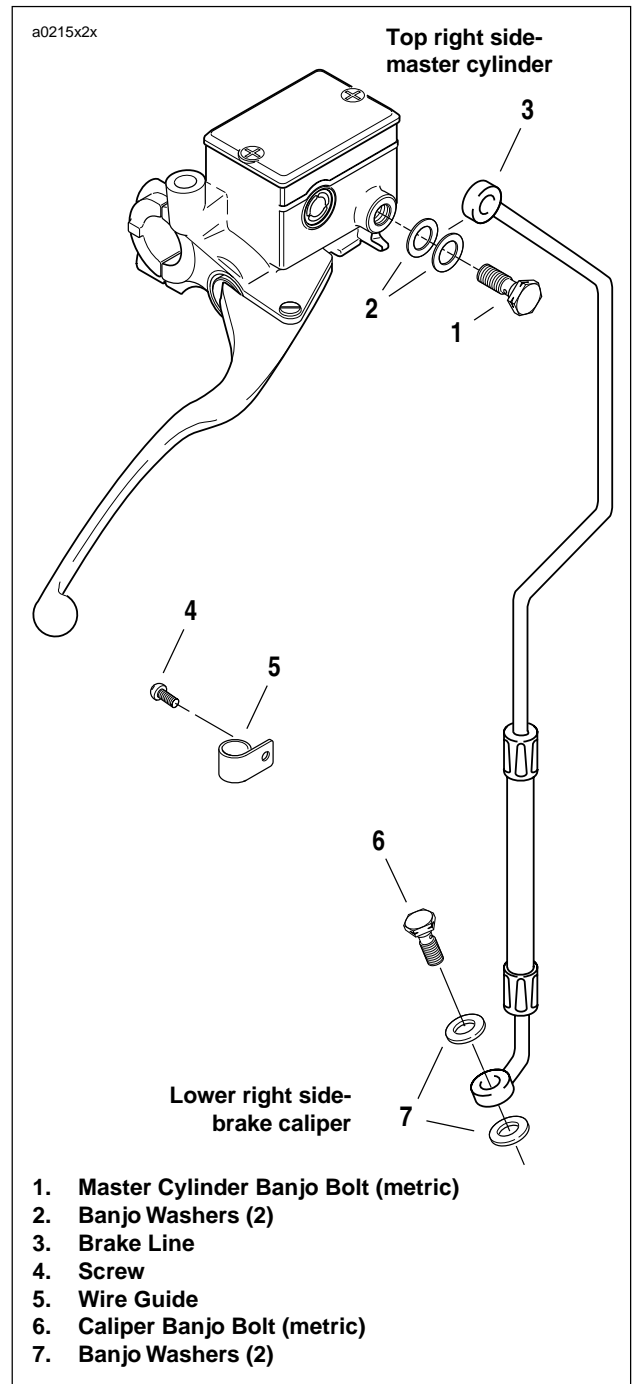

Figure 2-41. Front Brake Line
2. See Figure 2-41. Remove screw (4) to detach brake line clamp (5) from right side of lower triple clamp. Remove brake line from wireform.
1. See Figure 2-41. Connect brake line to master cylinder using two **new** banjo washers (2) and banjo bolt (1) (metric). Loosely install bolt into master cylinder.
2. From the master cylinder, the brake line runs downward in front of the right handlebar, where it turns inboard at the upper triple clamp. Loosely install clamp (5) with screw (4) to attach front brake line to right side of lower triple clamp. Position brake line in wireform.
3. Connect brake line to caliper using two **new** banjo washers (7) and banjo bolt (6) (metric). Tighten banjo bolt (6) to 16-20 ft-lbs (21.7-27.1 Nm).
4. Tighten clamp screw (4) on lower triple clamp to 3-5 ft-lbs (4.1-6.8 Nm).
5. Tighten master cylinder banjo bolt (1) (metric) to 16-20 ft-lbs (21.7-27.1 Nm).